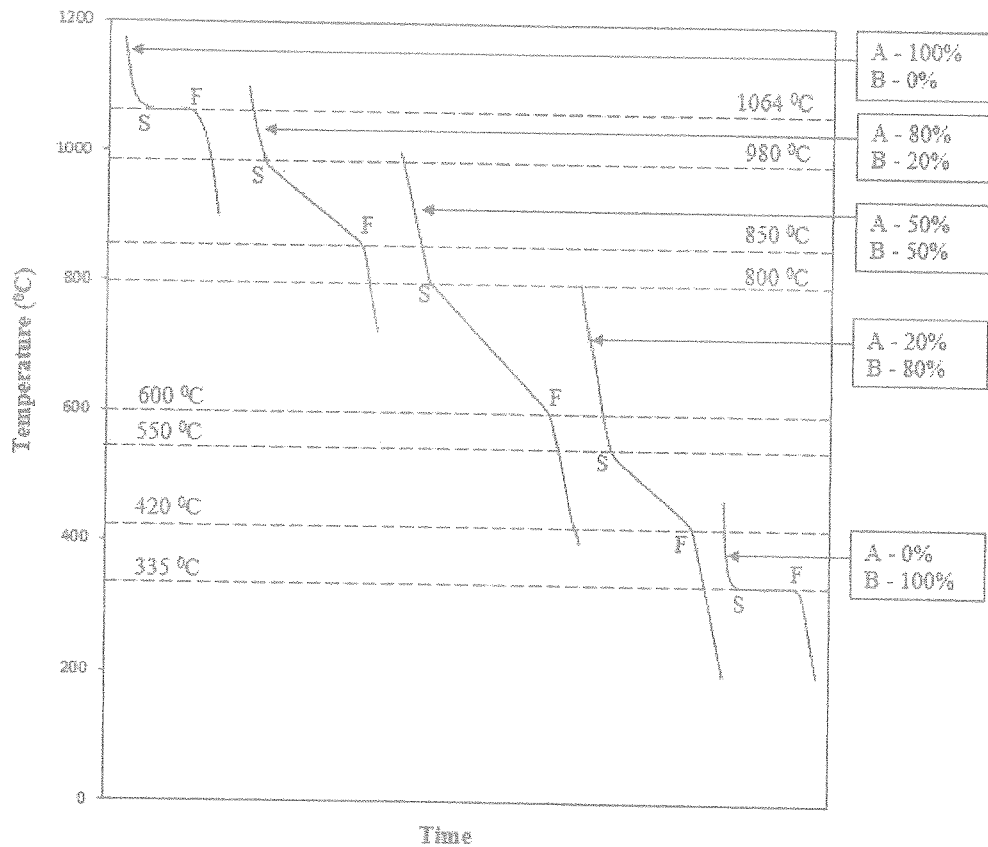

Figure Q3
- b) Cooling curves for the two components which are soluble in each other in all proportions in both liquid and solid states are given below. (Figure Q3)
- Construct a phase diagram for above system using the data given in Figure Q3. Mark all the phase regions. (You may use a graph paper) [4.0 Marks]